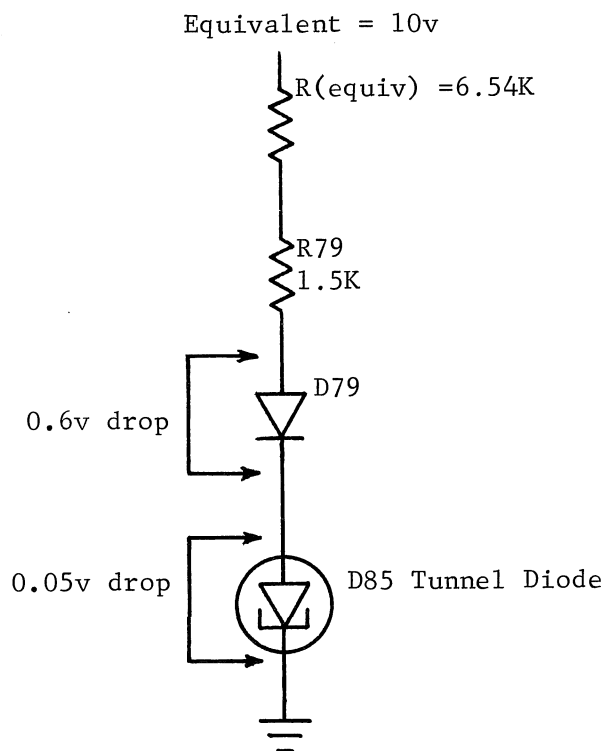

Figure 14
17. Now, reconnecting R79 to this equivalent circuit, a second equivalent circuit is obtained as shown in Fig. 14.